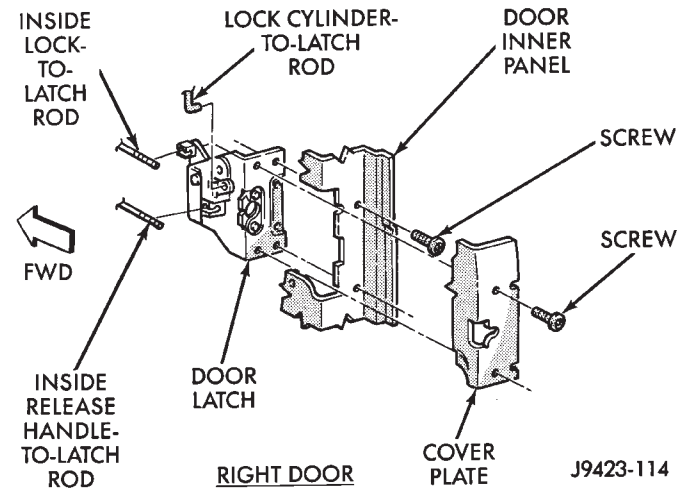

Fig. 15 Latch Removal/Installation
- (3) Disconnect the inside release handle-to-latch rod. Disconnect the lock cylinder-to-latch rod. Disconnect the inside lock-to-latch rod. Disconnect the external handle-to-latch rod from the door latch (Fig. 15).
- (4) Remove the door latch attaching screws and remove the latch from the door (Fig. 15).
- (1) Install the door latch with the attaching screws (Fig. 15).
- (2) Connect the rods to the latch (Fig. 15).
- (9) Remove the retaining screws and the door latch with the rods attached (Fig. 15).
(9) Position the latch in the door and install the retaining screws (Fig. 15). Tighten the screws securely.